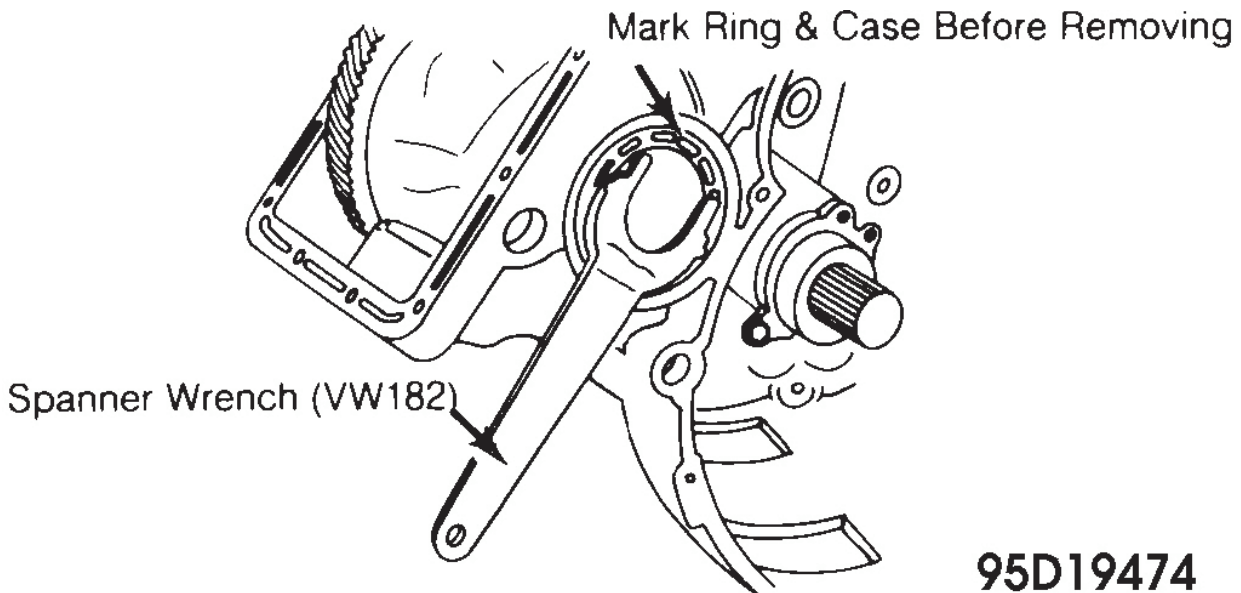

Fig. 28: Removing Differential Side Bearing Adjusting Ring
4. Remove lock clip from adjusting ring. Using spanner wrench (VW 182), screw ring out of case. See **Fig. 28**. On opposite side of case, remove nuts and withdraw the other differential side bearing retainer (cover). Grasp differential and ring gear assembly and remove from final drive case. See **Fig. 29**.